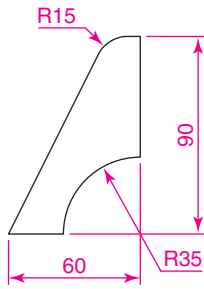

Fig. 17.12 Third example UCS – outline for 3D model
3. Construct the outline Fig 17.12 and extrude to a height of 120.